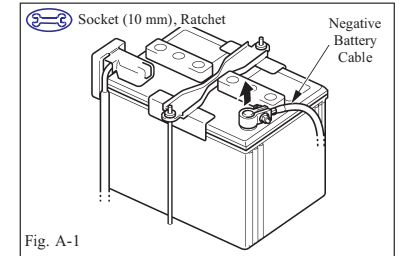

Fig. A-1
2. Remove the negative battery cable. (Fig. A-1)